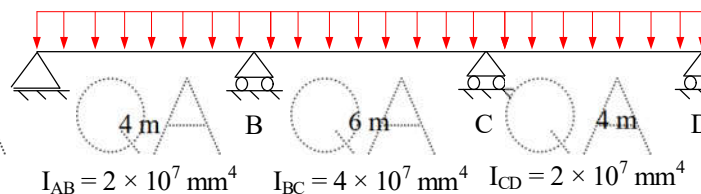

Figure 2
2. Analyse the continuous beam as shown in figure 2, if the support B and C sinks by 2 mm and 5 mm respectively. [10]